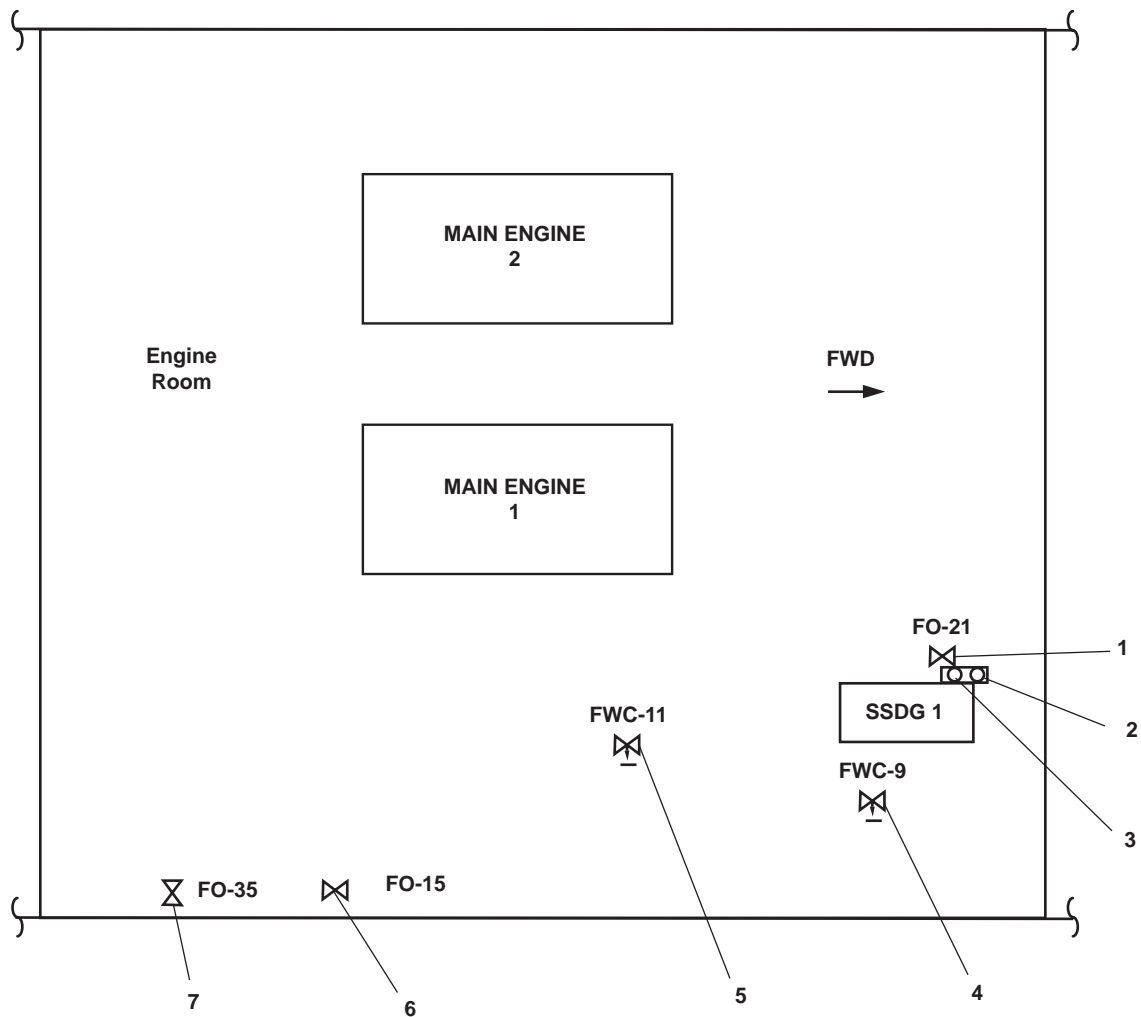

Figure 11. Fuel Oil Service and Fresh Water Cooling System Valve Locations
- a. FO-21, F.O. SPLY TO S.S.D.G. No. 1 (figure 11, item 1)
- b. Fuel oil filter inlet valves (figure 11, item 2)
- c. Fuel oil filter outlet valves (figure 11, item 3)
- d. Fwc-9, F.W. F.R KEEL CLR TO S.S.D.G. No. 1 (figure 11, item 4)
- e. Fwc-11, F.W. FR. S.S.D.G. No. 1 TO KEEL CLR. (figure 11, item 5)
- f. FO-15, F.O. SERV. SUCT. STBD (figure 11, item 6)
- g. FO-35, F.O. RTN TO DAY TK. STBD (figure 11, item 7)